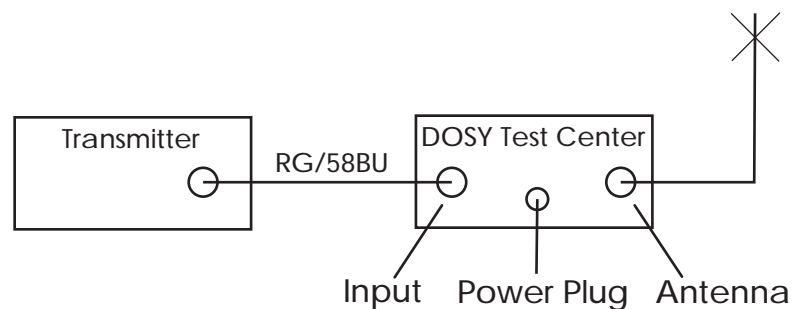

Figure 1
1. Turn Mode Selector Switch (#5 Fig. 1) to MOD position
2. Switch SSB/AM rocker (#6 Fig. 1) to SSB
This DOSY meter is equipped with a head phone jack and meter panel lights. For these features to work this unit must be plugged into a 120-volt outlet with the supplied power adapter. The power adapter cable must be plugged into the power jack on the back of the test center. Position the toggle switch (#6 Fig. 1) to the ON position to turn on the lights.
The TC-4001-P Test Center will indicate the power output (in watts) of your equipment at the point in the transmission line where you have installed the test center. To measure any power from 1 to 2000 watts, just set the Mode Selector Switch (#5 FIG. 1) to the appropriate range: 20, 200, 2000 watts. If wattage to measure is larger than 2000 watts, the 2000/4000 switch (#3 Fig. 1) must be switched to 4000. When returning back to the 2000 watt scale, you must return the switch (#3 Fig. 1) back to the 2000 watt setting.
1. Turn Mode Selector Switch (#5 Fig. 1) to SWR-SET Position.
2. Turn SWR RF Level Control (#1 Fig. 1) to Min.
3. Key transmitter and turn SWR RF Level Control clockwise (#1 Fig. 1) to give a full scale meter reading to Set Line on the SWR Meter (#1 Fig. 1).
4. With Transmitter keyed, switch Mode Selector Switch (#5 Fig. 1) to the SWR position and read SWR ratio directly on SWR Scale.
1. Turn Mode Selector Switch (#5 Fig. 1) to the MOD position
2. Switch Set/Modulation rocker (#4 Fig. 1) to SET
3. Switch Modulation Mode rocker (#6 Fig. 1) to AM
4. Turn RF Level control (#1 Fig. 1) to MIN
6. With Transmitter keyed, switch SET/MOD rocker (#4 Fig. 1) back to MOD position and talk into the microphone or steadily whistle to read modulation percentage on the AM Scale.